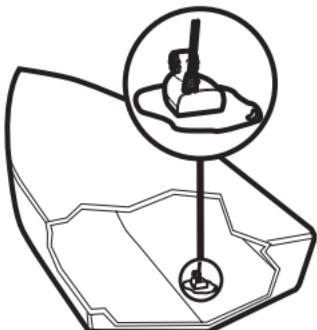

Figure 28
- Observe the outside of the boat hull to find the areas that are mostly free from turbulent water. Avoid ribs, strakes and other protrusions, as these create turbulence (Figure 28).
3. Place the transducer body face down at the identified mounting location inside the hull, with the pointed end towards the bow (Figure 28).
- Coat the face of the transducer and the inside of the hull with epoxy (Figures 28 and 30).